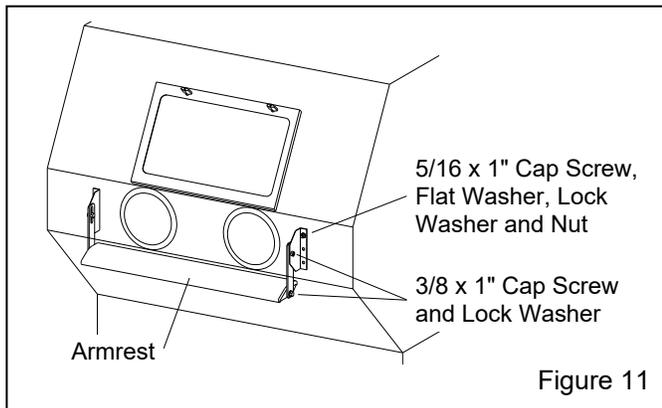

Figure 11
3.3 Armrest – Figure 11
3.3.1 Assemble the armrest and mounting brackets, as shown in Figure 11.